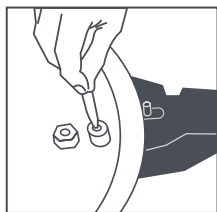

Fig. 12
Safety valve (7). Built into the pressure sensor (2) is the safety valve (7). Press on this with a sharp object (Fig. 12) and check that the spring is not blocked. You will feel slight resistance from the internal spring.